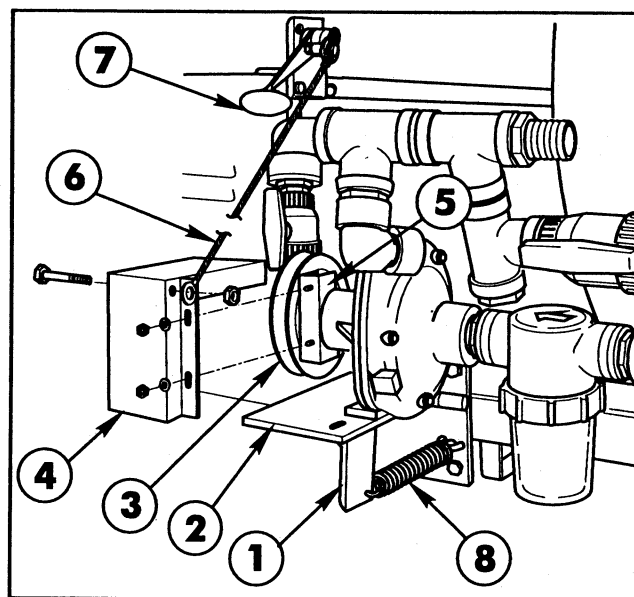

FIG. 6
5. Assemble the Centrifugal Pump and the Spring Mounting Angle to the Pump Pivot Plate, using two (2) 3/8" x 1-1/2" cap screws, flat washers and lock nuts as shown in FIG. 6.